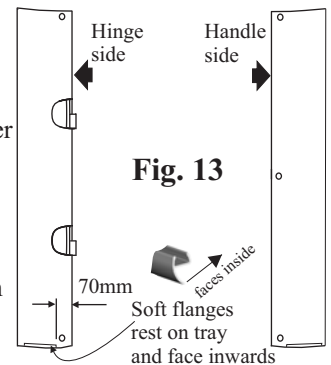

Fig. 13
6.3 The gaskets already fitted to the narrow glass panels are to suit a door only application. Remove the gasket next to the corner and replace with the shorter gasket supplied. Fit this gasket 70mm from the edge of the panel that will be adjacent to the door. See Fig 13.